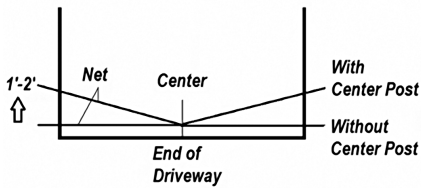

Fig. 1
- 1) Measure and mark the center point at the end of the driveway (Fig 1).
- 7) While keeping the net tight, move the end post 1-2 feet away from the street creating a funnel to the center post. Mark the ground where the post touches (Fig 1).